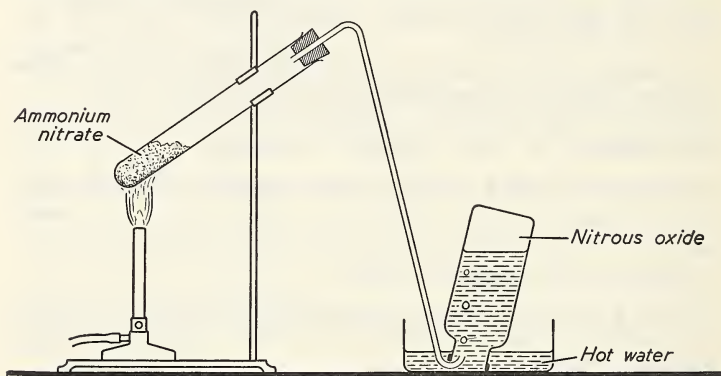

Fig. 79. The laboratory preparation and collection of nitrous oxide (laughing gas).
1. Place about 15 gm. of ammonium nitrate in a Pyrex test-tube, and arrange the apparatus as shown in Figure 79. Heat the ammonium nitrate gently until it melts, being very careful not to overheat.